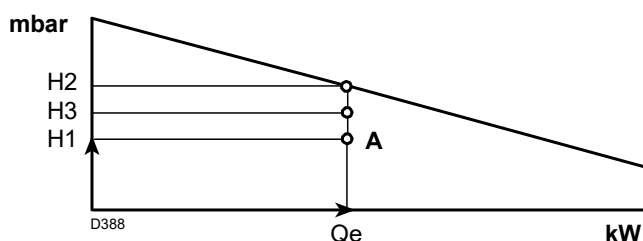

Fig. 4
- 4 Trace a vertical line from point A)(Fig. 4), and find the maximum pressure H2 of the firing rate.
If H3 is greater than H1)(Fig. 4), the burner can produce the delivery requested.